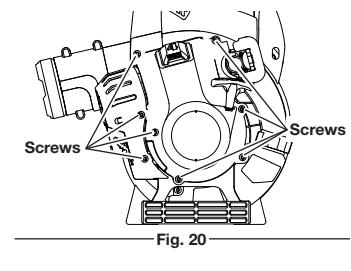

Fig. 20
- Remove the 8 engine cover screws with the appropriate tool (Fig. 20), then remove the cover.
NOTE: Make sure that the screws are reinstalled into their original holes (Fig. 20).